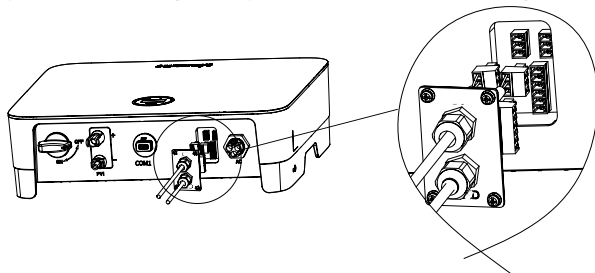

Fig. 35. Connection of the 3-pin connector on the inverter.
4. Insert the 3-pin connector into the inverter and screw the cover plate back on using a Phillips screwdriver, as shown in Fig. 35: